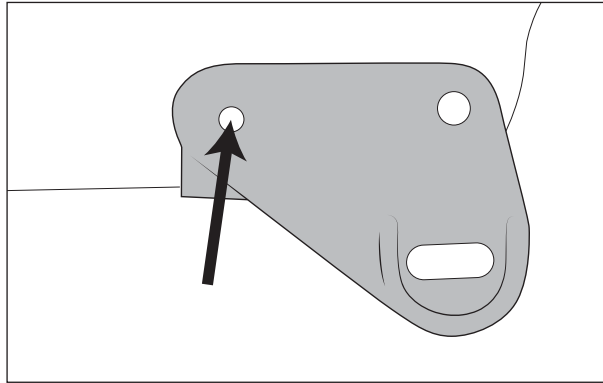

Figure 6
- A. Install forward most LCA brackets (NRMS0521 and NRMS0522) and cam centering blocks (NRMS5002) loosely with 18mm bolt pointed forward. Install chamfered edges of cam centering blocks against frame so they fully seat into pocket. Press bracket tightly against front and bottom of cross-member, then mark hole to be drilled in front face of cross-member. Remove bracket and drill 1/2" hole (fig. 6) Apply paint to the hole for rust protection.